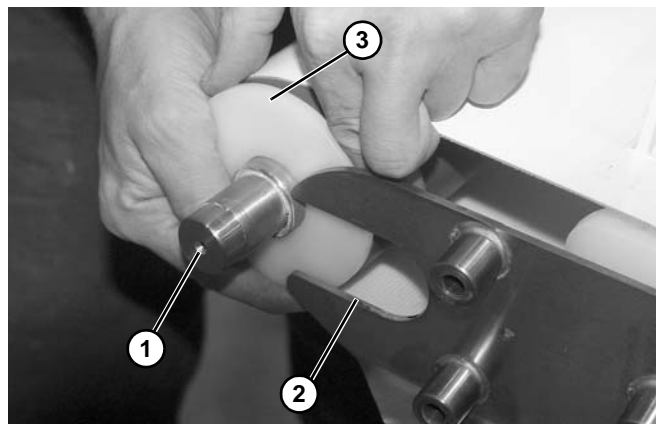

Figure 126
7. Pull spindle (**Figure 126, item 1**) from slotted end (**Figure 126, item 2**) of conveyor, and remove spindle guard (**Figure 126, item 3**) from end of drive spindle.